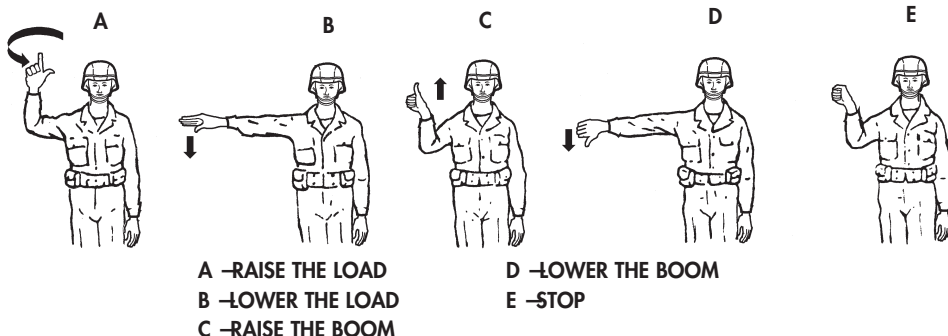

Figure 1. Hand Signals for LHS.
- Review the proper hand signals for operation of the transporter boom, WP 0018 00, figure 1, prior to using the LHS.